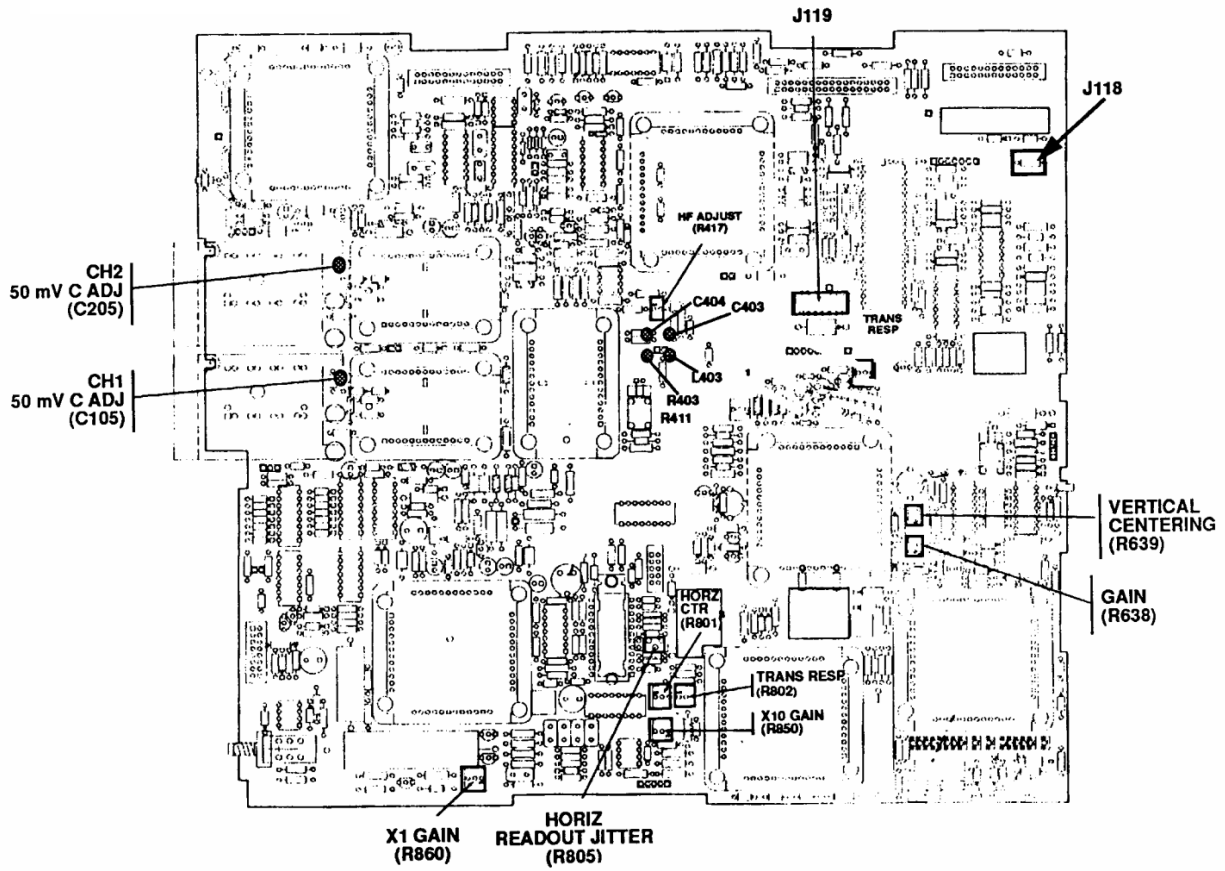
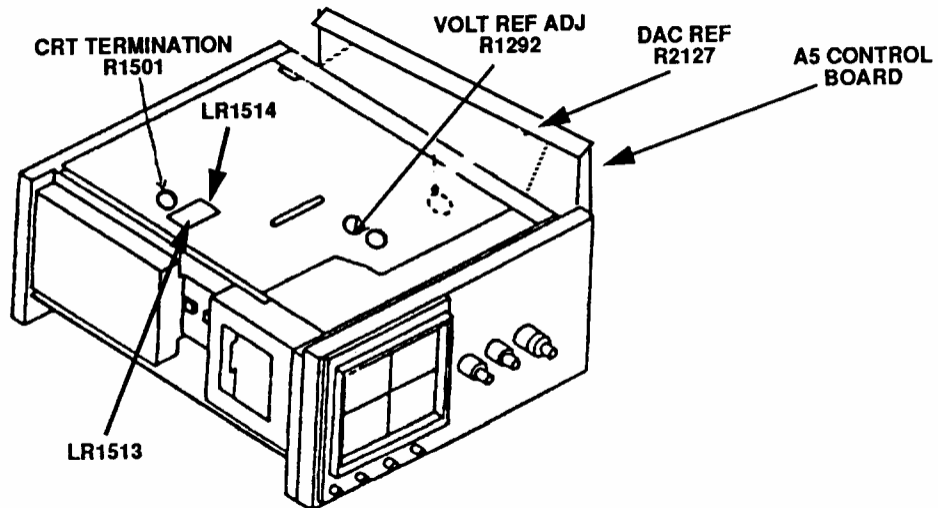

Figure 1. A1 main board - adjustment locations.
Figure 2. Adjustment locations.
- (1) Press **VERTICAL MODE** pushbutton **CH 2** to off.
- (2) Connect digital multimeter **LO** to chassis ground and **HI** to TI J119 (fig. 1) pin 4. If digital voltmeter does not indicate between +9.99 and +10.01 V dc, perform **b** below.
**b. Adjustments.** Adjust **VOLT REF ADJ R1292** (fig 2) until digital multimeter indicates 10.00 V DC (R).
- (1) Press  **$\Delta t$**  pushbutton for a  **$\Delta t$**  display on crt.
- (2) Connect digital multimeter **LO** to chassis ground and **HI** to J118 (fig 1) pin 2.
- (3) Rotate  **$\Delta$ REF OR DLY POS** control ccw until digital multimeter indication remains at a constant value (approximately -1.25 V dc). Record indication.
- (4) Rotate  **$\Delta$ REF OR DLY POS** control cw until digital multimeter indication remains at a constant value (approximately 1.25 V dc). Record indication.
- (5) Add the absolute values of indications recorded in (3) and (4) above (approximately 2.500 V).
- (6) Subtract the total in (6) above from 2.500 V, then divide the difference by two.
- (7) Adjust DAC REF R2127 (fig 2) to add the (signed) number obtained in (6) above to the reading in (4) above.
- (8) Repeat (3) through (7) above as necessary to obtain a total DAC range of 2.500 V.
- (9) Disconnect digital multimeter.
- (10) Press  **$\Delta t$**  pushbuttons to off (no cursor on display).
- (11) Connect oscilloscope calibrator **SOURCE/MEASURE CHAN 1** to **TI CH 1** using a 5-80 pF standardizer.
- (12) Set oscilloscope calibrator for a **CHAN 1, EDGE** mode output of **600 mV** at 1 kHz frequency.
- (13) Rotate oscilloscope calibrator knob below **EDIT** field pushbutton to adjust waveform to 6 divisions of vertical deflection on TI.
- (14) Adjust 5-80 pF standardizer for a square front corner over the first 40  $\mu$ s (0.4 division) of the positive portion of waveform. Note waveform front corner for use in (17) below.
- (15) Change oscilloscope calibrator **EDGE** mode output to **300 mV** at 1 kHz.
- (16) Set **VOLTS/DIV** switch to **50 mV** and rotate oscilloscope calibrator knob below **EDIT** field pushbutton to adjust waveform to 6 divisions of vertical deflection on TI.
- (17) Adjust CH1 50 mV C ADJ (C105) and CH2 50 mV C ADJ (C205) for CH 2 (fig 1) for same waveform front corner as noted in (15) above.
- (18) Set **VOLTS/DIV** switch to **100 mV**.
- (19) Repeat (13) through (18) above until no change is observed in the waveform front corner.
- (20) Press **VERTICAL MODE CH 1** to off and **CH 2** to on.
- (21) Repeat technique of (11) through (19) above for **CH 2**.
(24) Push up and release **TRIGGER COUPLING** switch. Display readout will indicate **X1, X10, HRZ CTR**, (step) **5, 10 μs** and two vertical cursors appears on the display.
(25) Change oscilloscope calibrator **MARKER** mode output to **10 μS/D**.
(26) If cursors are not aligned with 2d and 10th vertical graticule lines, adjust **X1 GAIN** (R860) (fig 1), and **HORZ CTR** (R801) (fig 1) to align the two cursors with 2nd and 10th vertical graticule line (R).
(27) If TI does not display 1 time marker per division  $\pm$  1 minor division, adjust **X10 GAIN** (R850) (fig. 1) for 1 marker per division (R).
(28) Push up and release **TRIGGER COUPLING** switch. Display readout will indicate **ADJ Δ**, (step) **6, 10 ms, 100 μs**.
(29) Change oscilloscope calibrator **MARKER** mode output to **10 mS/D** and adjust **ΔREF OR DLY POS** control to intensify 2d time marker and **Δ** control to intensify 10th time marker, and superimpose delayed B sweep time markers within .2 division.